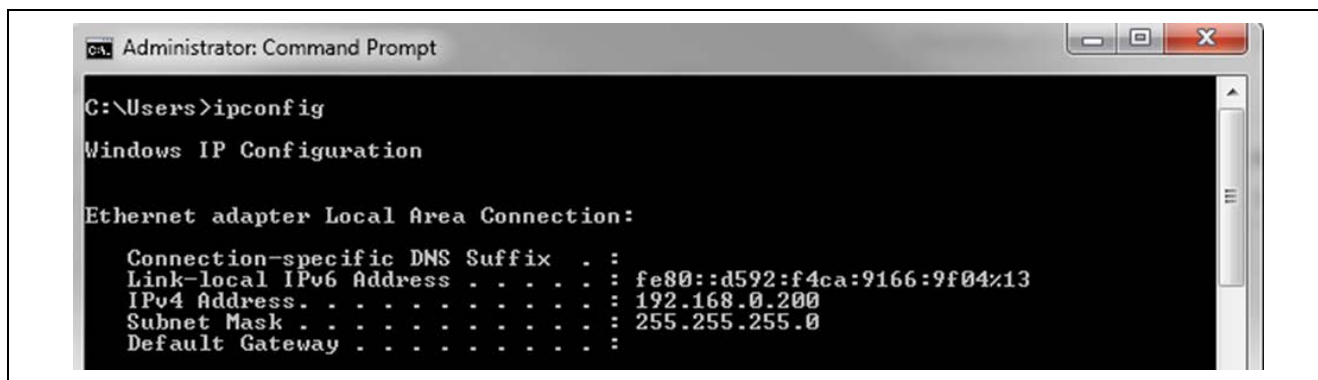

Figure 4. ipconfig results
2. In the **Command Prompt** window, enter the command `ipconfig`. You will see a screen like in Figure 4.